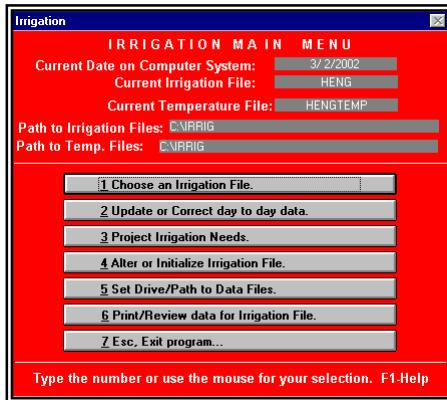

Fig 2.1 - The main menu for the *Arkansas Scheduler*.
2.-- The ***Arkansas Scheduler*** is a computer program that has been around since 1980. It is developed and strongly supported by the University of Arkansas. The University's innovated ***Verification Program*** is partially responsible for its widespread use in Arkansas and other states in the mid-South. The Verification Program is a pseudo-consulting effort by the University, in which only a couple of producers per commodity (corn, soybeans, rice, and wheat) in a county are chosen to be worked with. These producers provide a field to follow University BMPs and a check field. The yield results are outstanding. Participants point to weed control and irrigation as the two areas they alter the most. One of the BMPs for irrigation is using the ***Arkansas Scheduler***. Thus the impact of irrigation scheduling over a significant number of years and a large number of locations can be seen. One of the most controversial aspects of using the ***Arkansas Scheduler*** regards whether to irrigate on the date it calls for if a rain is forecast. The university-endorsed protocol is to irrigate anyway, as many showers never materialize. The advice appears to be beneficial, as growers in the program continue to experience good yields. The program is free from the Internet. The day to day use of it is fairly easy, but many growers have a hard time getting the files initially set up, which is done by choosing option 4 "Alter or Initialize Irrigation File" in the main menu, which is shown in Figure 2.1.